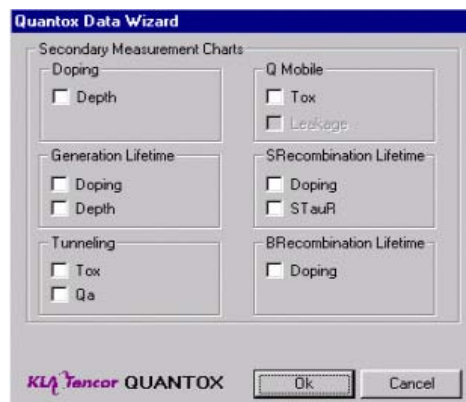

Figure 6-17: Secondary Charts for Site Measurement Data
3. To have Secondary Measurement Charts created, click Advanced... , select the secondary chart options (Figure 6-17), then click OK to return to the Select Chart Options window.